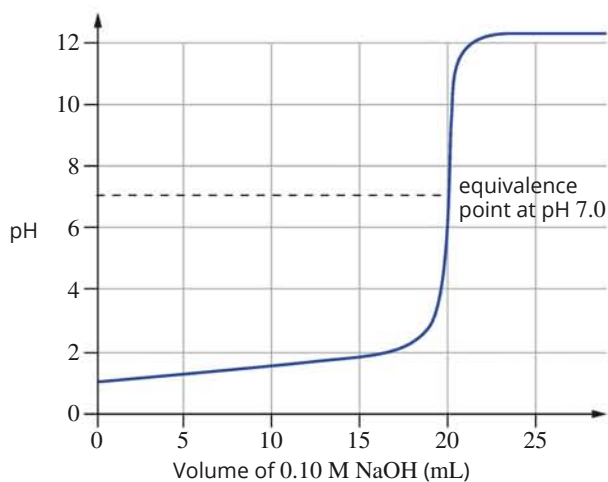

FIGURE 20.4.7
- 1 The titration curve in Figure 20.4.7 shows the change in pH as a solution of 0.10 M sodium hydroxide is added to a 20.00 mL solution of 0.10 M hydrochloric acid.